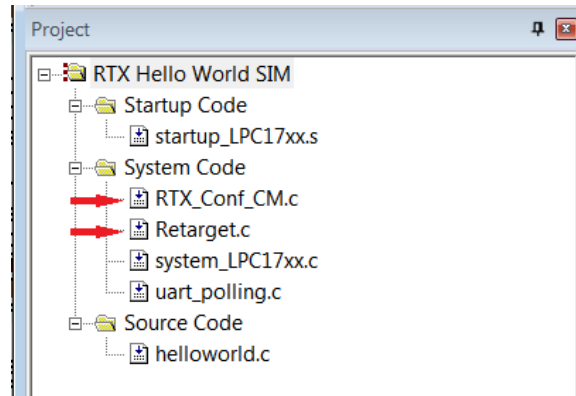

Figure 1.14: Keil IDE: RTX HelloWorld Project Files
3. To configure the RTX kernel by modifying source code of `RTX_Conf_CM.c`. Figure 1.14 is the HelloWorld RTX project setup. Comparing it with the non-RTX